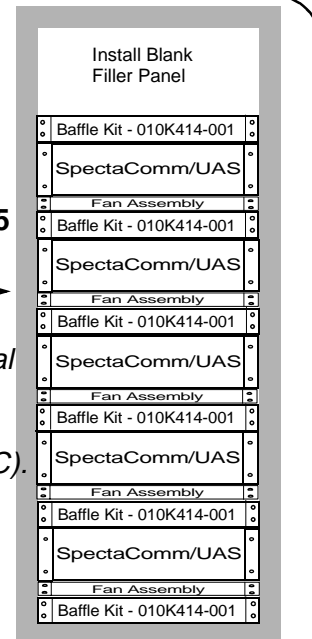
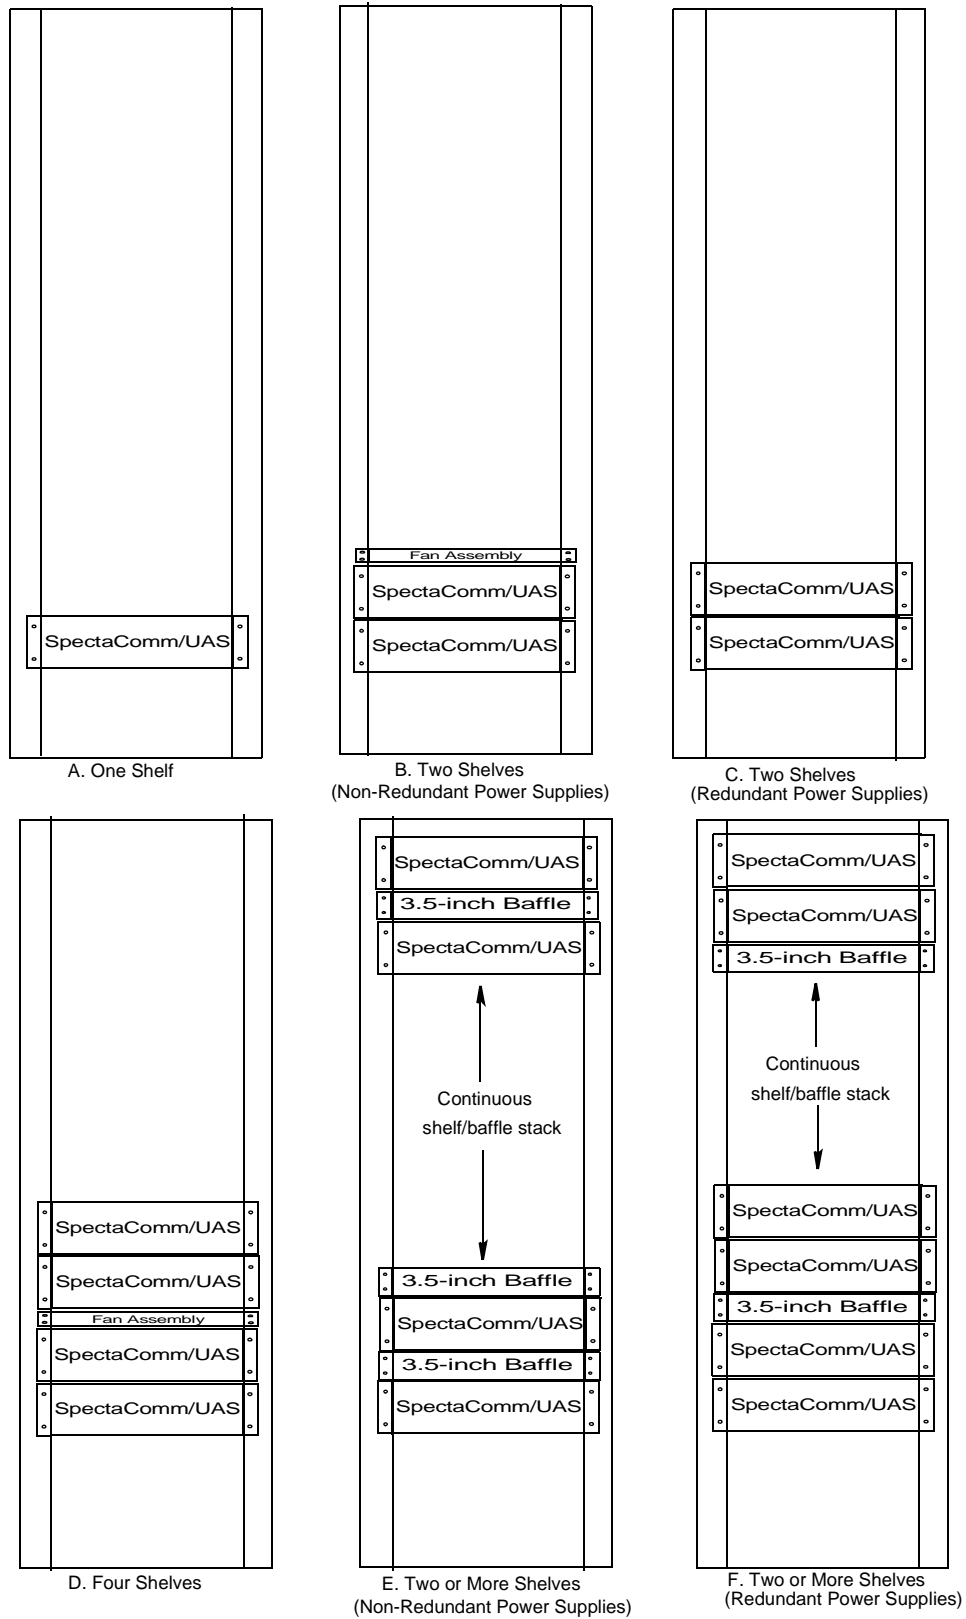

Figure 2-3 SpectraComm/UAS Shelves in EP-6 Cabinet
Figure 2-4 SpectraComm/UAS Shelves in 7' 6" Open-Frame Rack (Bay)
- The following information should be adhered to when stacking shelves in Open Frame or EP-6 Cabinets. They are based on worst case power requirements (fully loaded 96 Watt power consumption). Although lightly loaded shelves require less cooling, it is recommended that these guidelines be followed to eliminate the necessity to upgrade in the field. In any case, be sure to use blank filler panels in any unused slot of the shelf when a fan is used. When you install only one power supply, you **MUST** install a power supply blank front panel (GDC Part No. 010D727-001) to cover the unused slot. See Figure 2-4 and refer to Table 2-1.
Important Refer to Figure 2-3 for Bellcore GR-63-CORE Frame Level R4-15 Firespread Criteria requirements.
Refer to Figure 2-3 and Air Baffle Installation on page 2-16 for Bellcore GR-63-CORE Frame Level Firespread configuration.
Figure 2-3, Figure 2-4 and Table 2-1 illustrate and describe EP-6 Cabinet and Open Frame SpectraComm/UAS Shelf configurations.
Use of the fan assembly for forced air cooling is optional in single-shelf configurations and in configurations with two shelves with redundant supplies. Most other configurations require one or more fan assemblies. *The SpectraComm/UAS Shelf meets Bellcore GR-63-CORE Frame Level R4-15 Firespread Criteria when configured as shown in Figure 2-3 . This arrangement requires the use of Air Baffle Kit No. 010K414-001.